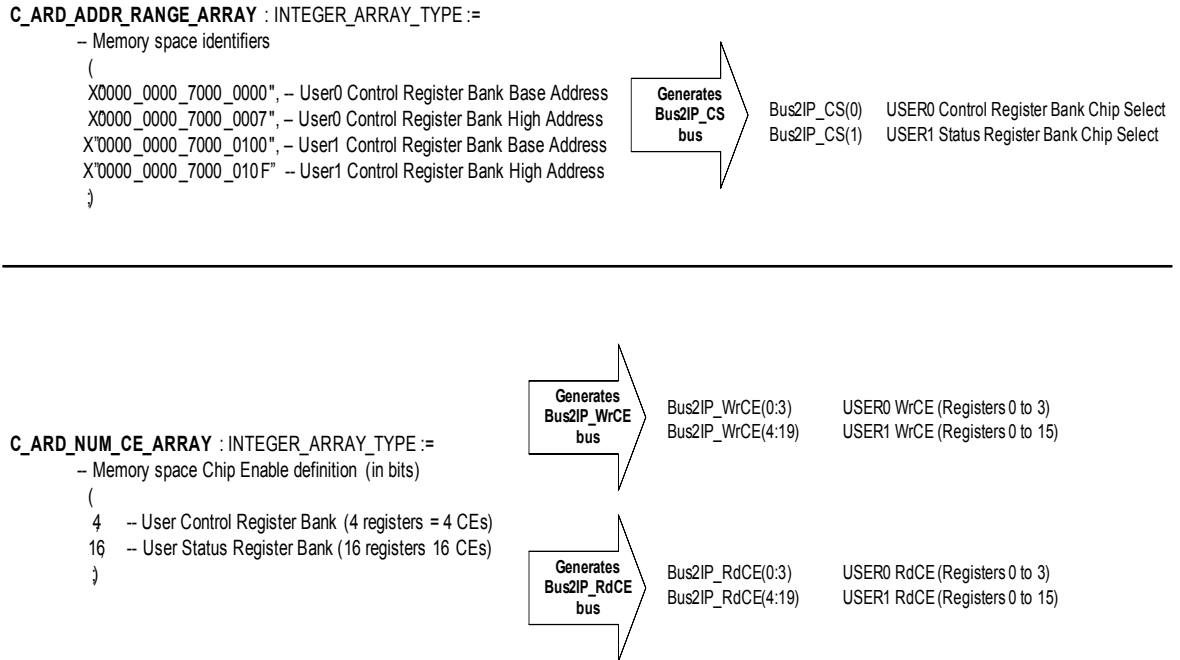

Figure 12: ARD Arrays and CS/CE Relationship Example
Implementing Chip Select (CS) and Chip Enable (CE) signals is a common design task that is needed within microprocessor based systems to qualify the selection of registers, ports, and memory via an address decoding function. The PLB Slave Attachment implements a flexible technique for providing these signals to Users via the ARD parameters. As such, the User must understand the relationship between the population of the ARD array parameters and the Bus2IP_CS, the Bus2IP_RdCE, and the Bus2IP_WrCE buses that are available to the User at the IPIC interface with the Slave Attachment. An example of ARD Array population and the resulting CS and CE bus generation is shown in Figure 12. The timing characteristics of these signals are shown in the section titled "IPIC Transaction Timing" on page 15. The signal set to use for User IP functions is up to the User and the design requirements. Unused CE and CS signals and associated generation logic will be 'trimmed' during synthesis and PAR phases of FPGA development.